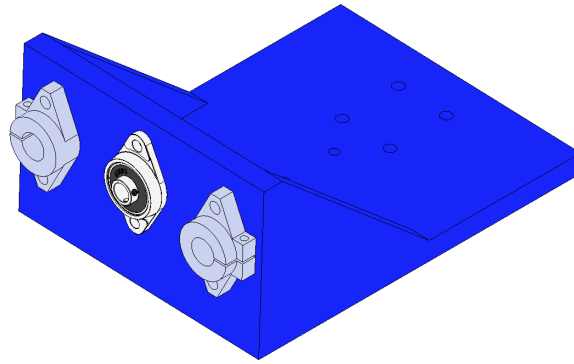

Figure 19: Assembly of the *X-Axis auxiliary support* with two (2) SHF12 supports and one (1) KFL08 bearing.
1. Focus on the X axis auxiliary support. Attach two (2) SHF12 linear rod supports using four (4) M4 screws with their corresponding nuts. Attach the linear rod supports on the lateral holes of the driver front face. Attach a single (1) KFL08 bearing using two (2) M5 screws with their corresponding nuts. The result of the assembly is shown on figure 19. Leave the assembly for later use.